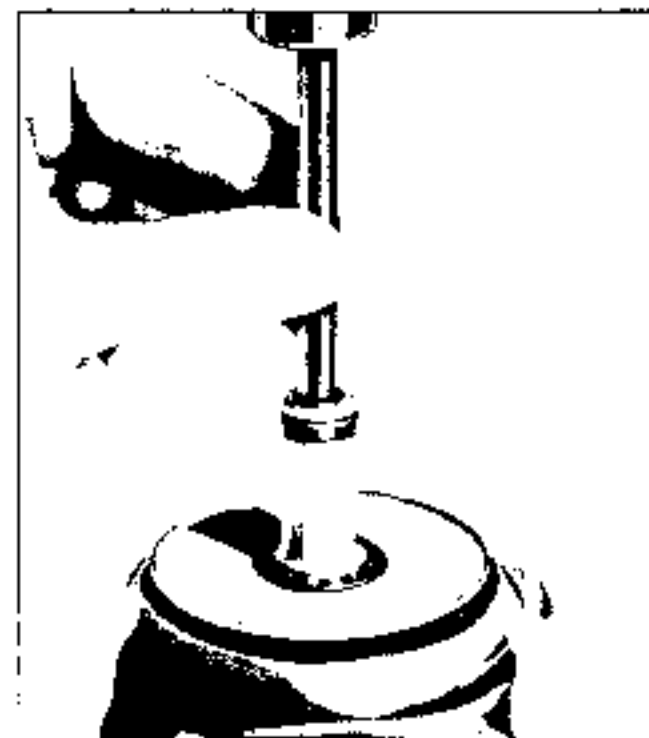

Fig. 4-20 Installing Check Valve
2. Insert new expansion plug retainer and tap it until it bottoms (Fig. 4-20).